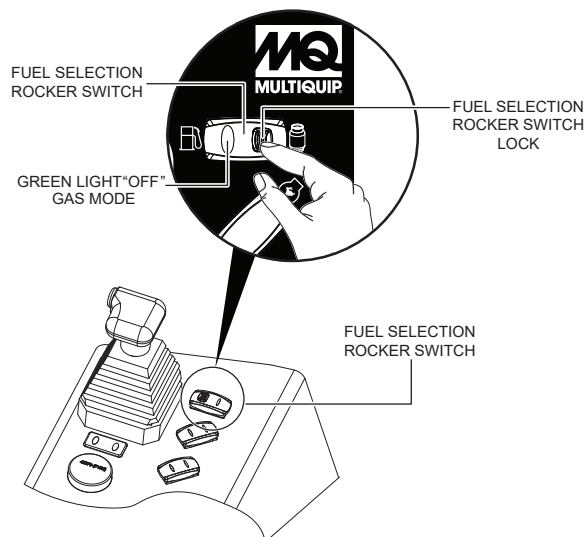

Figure 20. Fuel Selector Button (Gas Mode)
7. Slide the rocker switch lock (Figure 20) to the left and hold. This unlocks the fuel selection rocker switch.
8. To select the **GAS** mode, press down on the left side of the fuel selection rocker switch. The **GREEN** light is **OFF** (Figure 20).